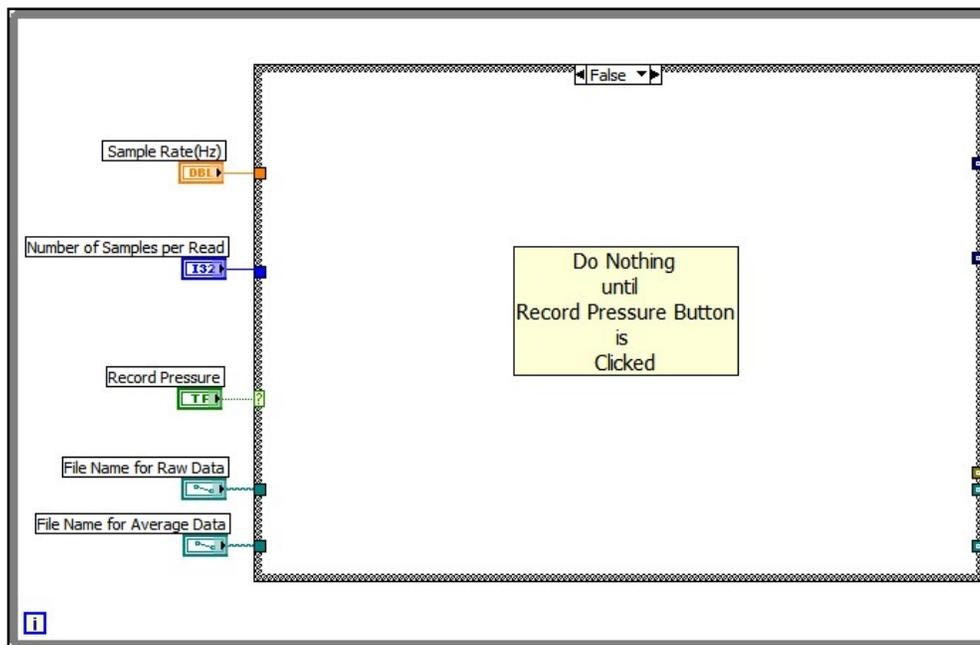

Fig. 2. Waiting for the Record Pressure Button to be Clicked
- After the program is started, the input data from the front panel is noted, and the program waits until the **Record Pressure** button is clicked. See Fig. 2.